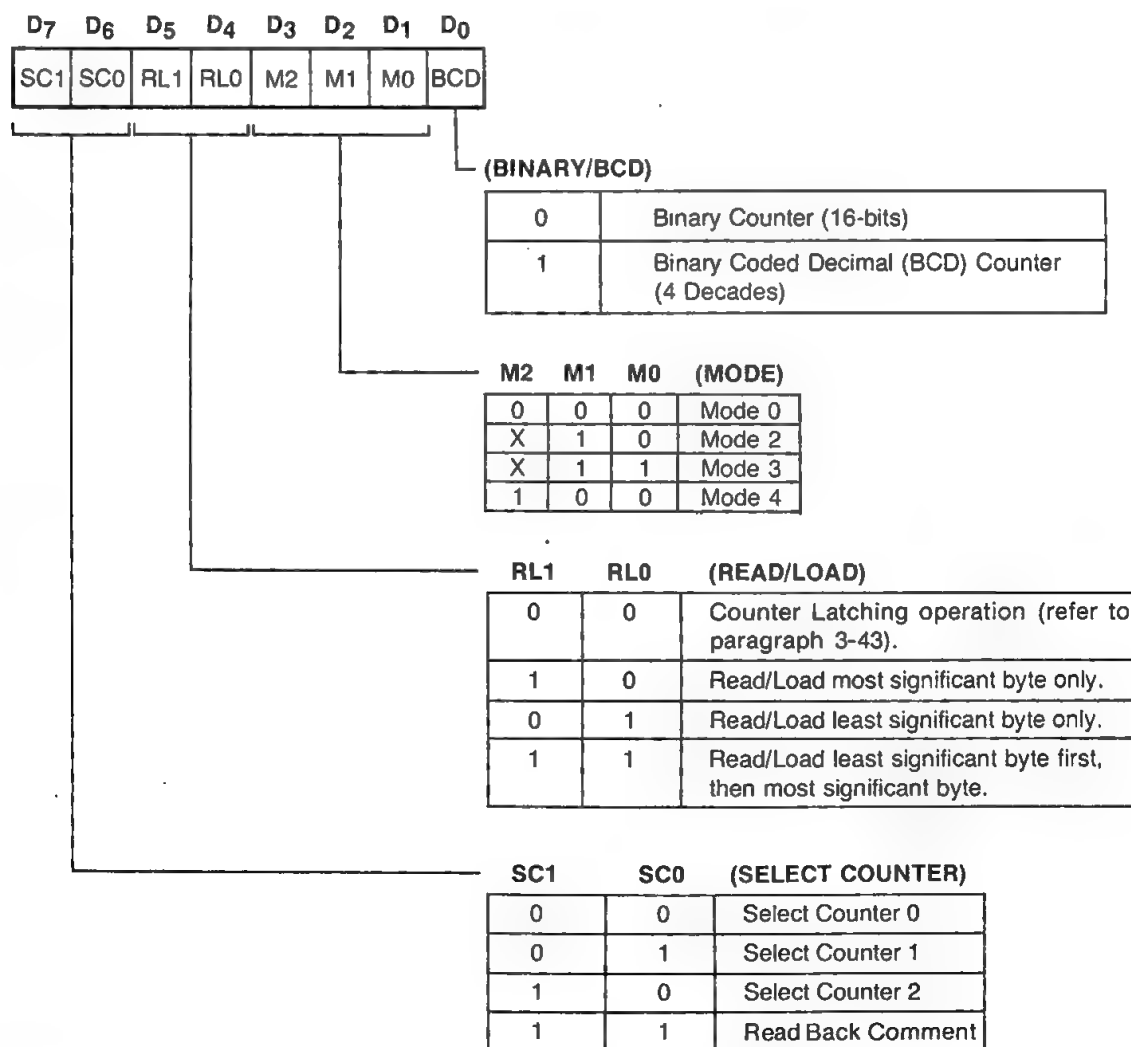

Figure 3-7. PIT Control Word Format
- a. A mode control word (Figure 3-7) is written to the Control register for each individual counter.
The mode control word (Figure 3-7) does the following:
The count mode selected in the control word controls the counter output. As mentioned earlier, Counter 0 and Counter 1 on the iSBX 352 board are dedicated to providing clocks for the 8273 device, the counters must be initialized in the square wave generator mode of operation (Mode 3). Counter 2 can be programmed to operate in any desired mode. As shown in Figure 3-7, Counter 2 in the PIT can operate in four of six possible modes, as follows:
- Write a mode control word for Counter 0 to I/O port address base+3. Note that all mode control words are written to base+3, since the mode control word must specify which counter is being programmed. (Refer to Figure 3-7.)